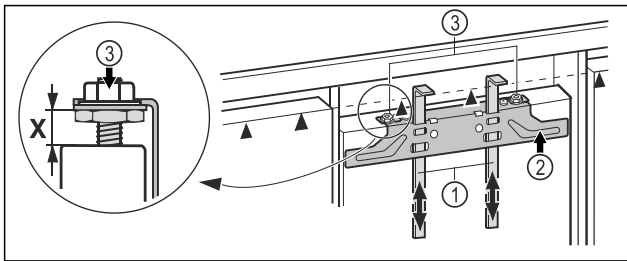

Fig. 44
- Push the assembly aids Fig. 44 (1) up to unit door height. Lower stop edge ▲ of the assembly aid = upper edge of the unit door to be assembled.
- Unscrew the fastening bar Fig. 44 (2) using the lock nuts Fig. 44 (3).